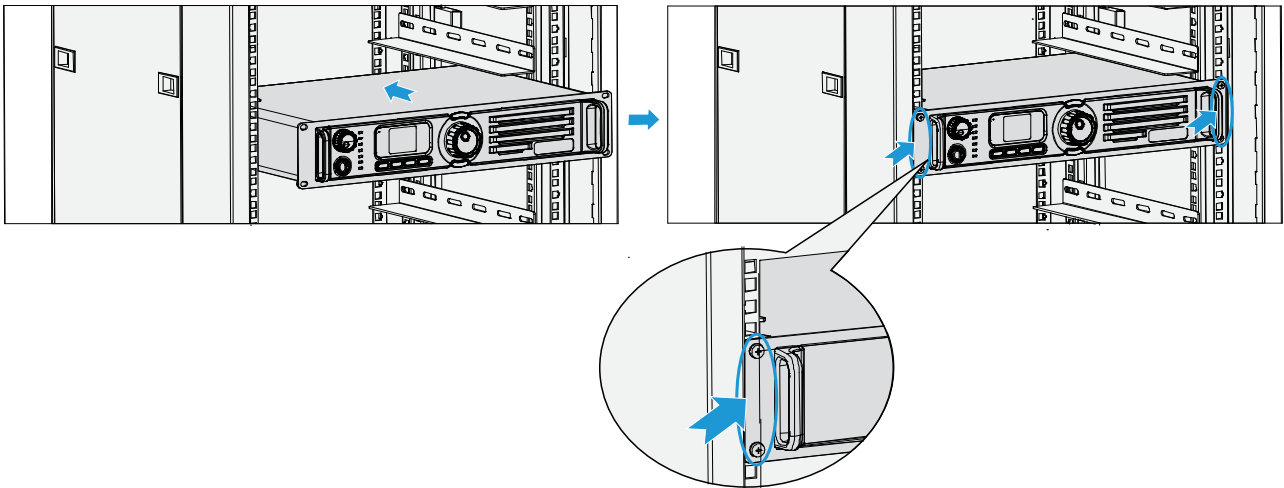

Figure 3-13 Installing the CHU
Step 3 Place the CHU on the tray, and push the tray until the waist-shaped holes on the front panel of the MTU fit the upright column. See Figure 3-13.